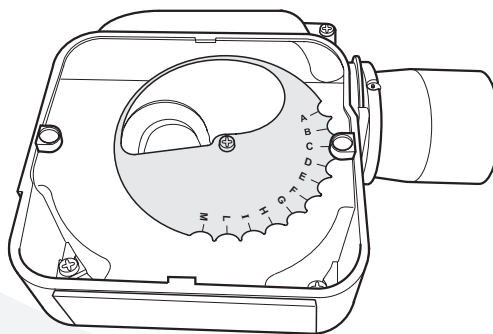

Figure 10-2: 15/21 air adjuster disc at position 'C'
To adjust the 15/21 air adjuster disc when downrating - See Figure 10-2
4. The secondary air shutter disc is factory set in position 'C' - i.e. with the cut-out marked C located against the die-cast boss on the fan housing - suitable for outputs of 18.3 and 21 kW only. See Figure 10-2.